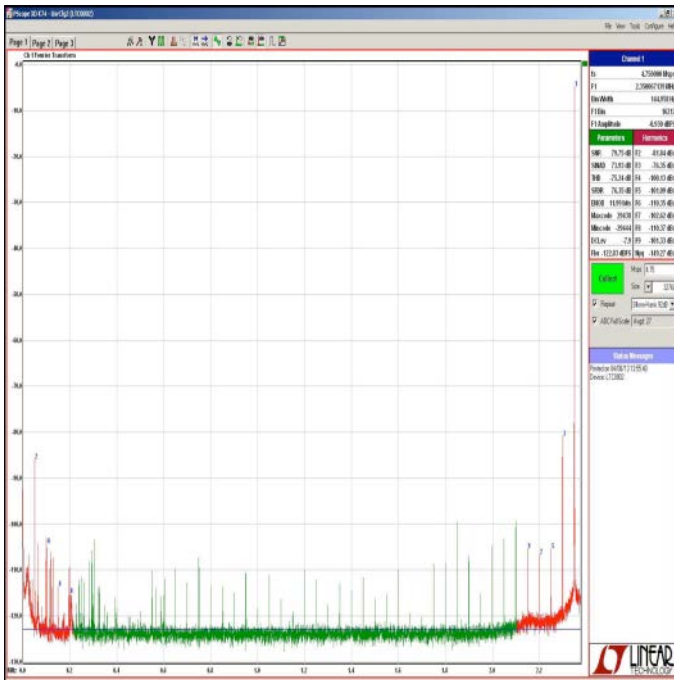

Figure 2. DC2425A PScope Screenshot
- Click the Collect button (Figure 2) to begin acquiring data. The Collect button then changes to Pause, which can be used to stop data acquisition.